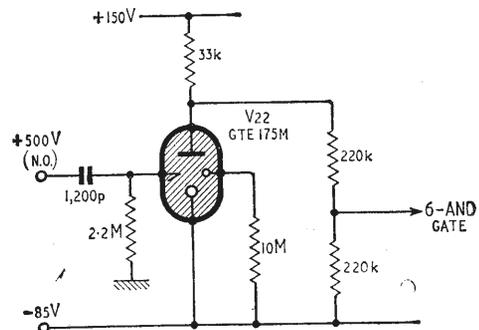

Fig. 2. Circuit of  $V_{22}$ , the "initial inhibit" element.
The electronic circuits of EDGE may now be considered in more detail. The power supplies are conventional. A voltage-doubling circuit feeds a cold-cathode stabilizing chain to provide all voltages except for a +18V line, which is derived from a bridge rectifier, and a +10V line which is stabilized from the +18V line by a Zener diode. The +500V(NO) and (NC) line in Figs. 2 and 3 refer to the normally open and normally closed states of  $S_{10}$ , the coin operated microswitch in the rejector.
Fig. 2 shows the circuit of  $V_{22}$ , which is struck by a positive pulse from  $S_{10}$  on the first operation and remains burning thereafter until the mains supply is disconnected.